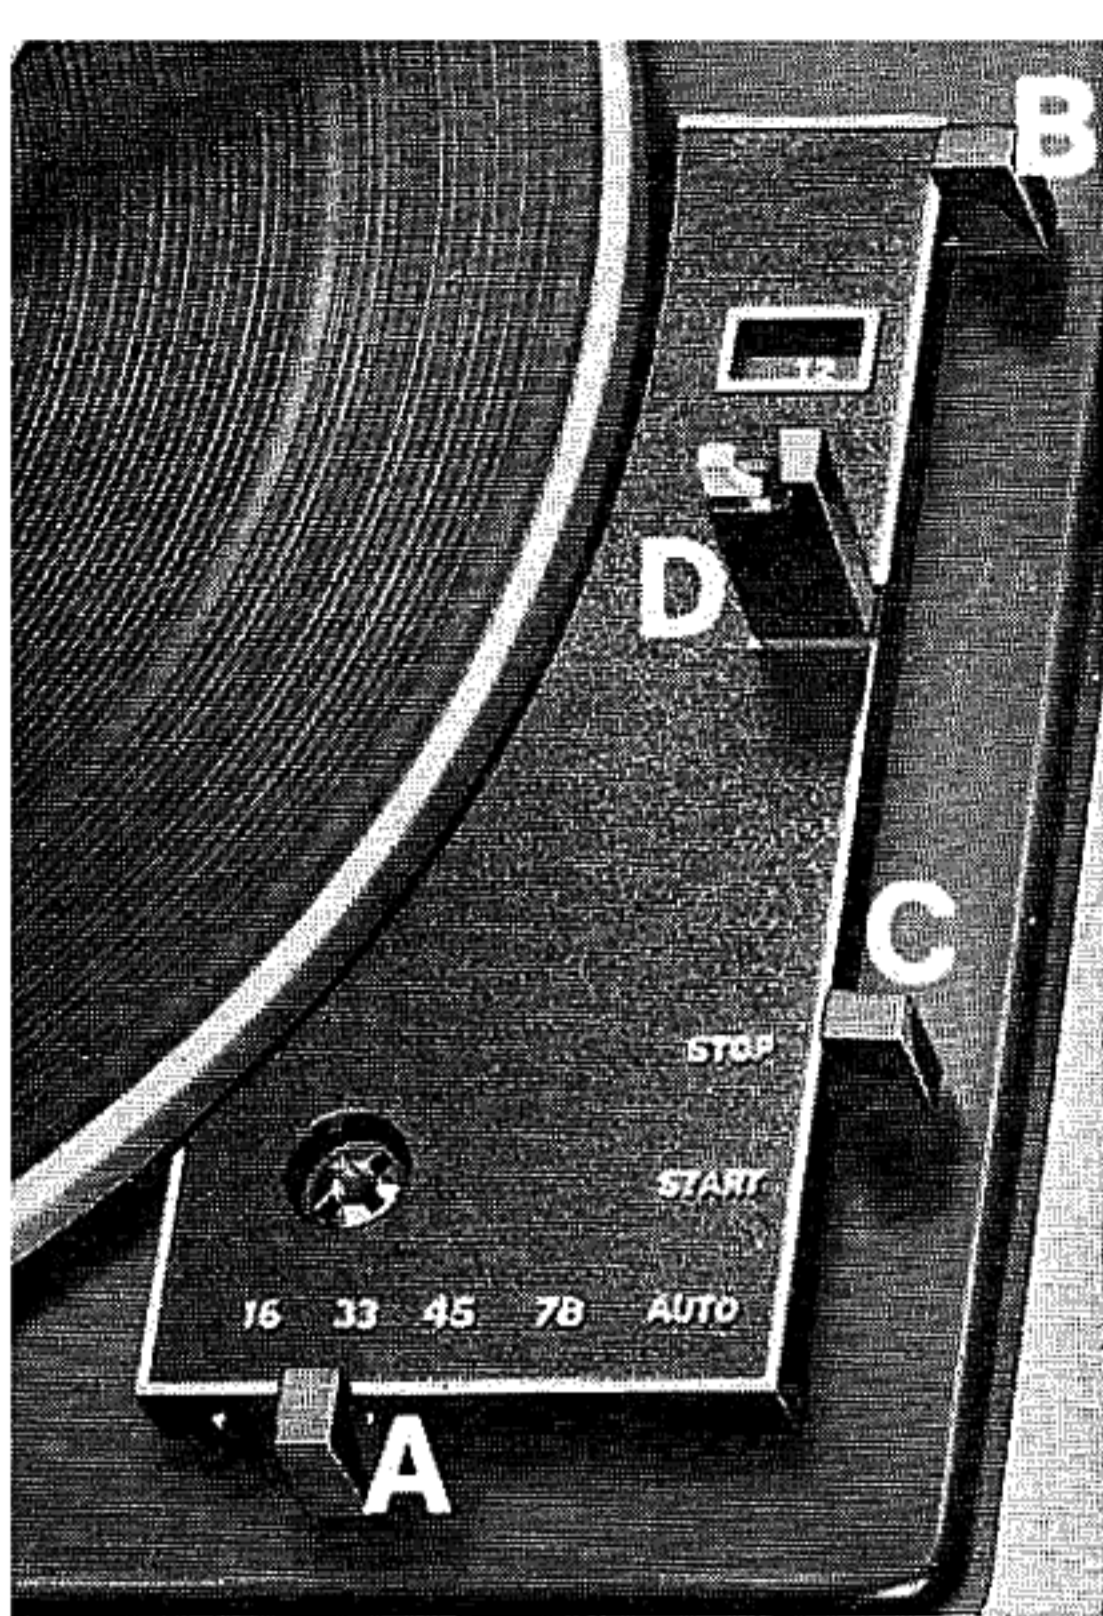
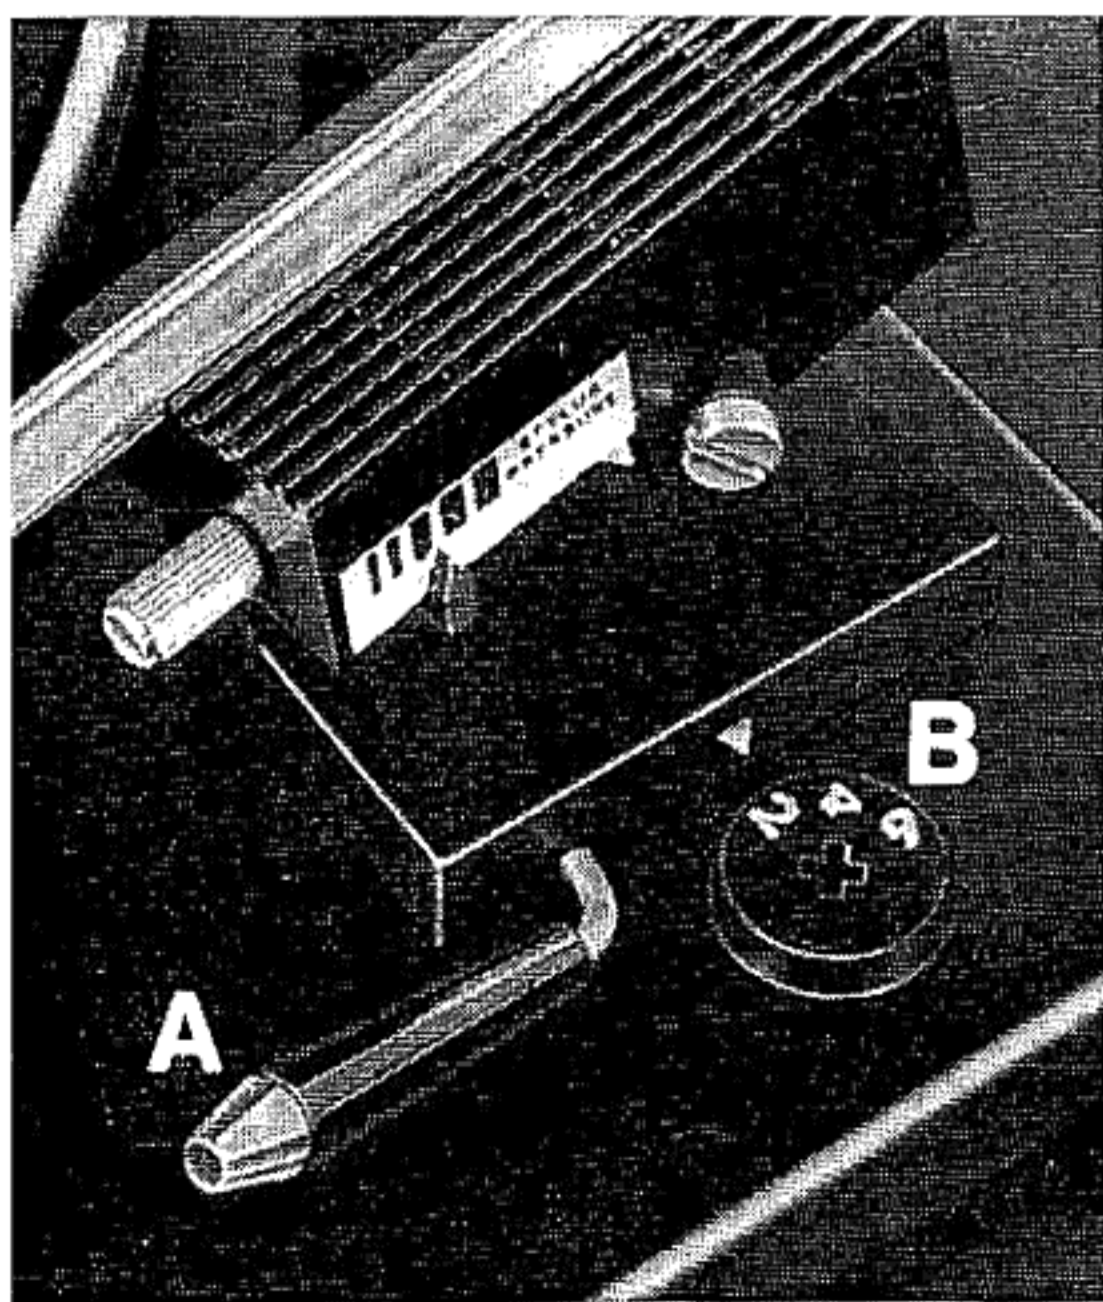

Fig. 1 CONTROL PANEL WITH AUTOMATIC PICK-UP LOCK
Fig. 2 CUEING LEVER AND BIAS COMPENSATOR
- (a) Move the speed control (Fig. 1, A) against the required speed.
- (b) Set record size selector (Fig. 1, B).
3. **To Start.** Move the starting lever (Fig. 1, C) to the AUTO position and hold there momentarily until the turntable revolves, then let it return gently to the START position.
5. **To Stop.** After playing the last record the unit will shut off automatically. If it becomes necessary to stop the unit during play, raise the cueing lever (Fig. 2, A) and move the pick-up arm above the pick-up rest (Fig. 1, D), lower the cueing lever and move the starting lever to the STOP position.
NOTE: To interrupt the record, raise the cueing lever (Fig. 2, A) to lift the pick-up arm. When the cueing lever is lowered, the pick-up will descend to the record and resume playing in the same groove.
2. Pick-up Arm Bias Compensator. Having set the required stylus pressure, the bias compensator (Fig. 2, B) is adjusted to a figure corresponding to the stylus pressure applied. The control is continuously adjustable so settings between the figures indicated are possible.